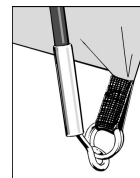

Figure 1.
- Locate the end of each long diagonal pole at the front of the tent into the metal pin system attached to the groundsheet. (see figure 1) Make sure poles locate into correct pin system (all poles follow corresponding flysheet seams to pin system). Loosen any tension straps attached to the pin system.
- Locate one end of each pole onto the corresponding metal pin. The metal pin inserts into the hollow metal ferrule on the end of each pole. (See Figure 1). Push the pole into a curve from the opposite side, one at a time, and locate all pole ends onto the metal pins.